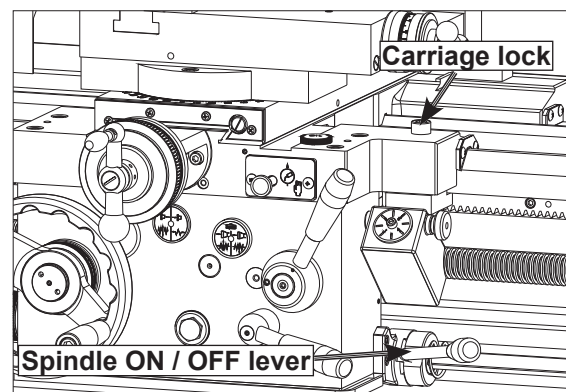

Figure 18. Carriage lock & Spindle ON / OFF lever.
7. Using a 10mm hex wrench, loosen the carriage lock (Figure 18) so the carriage is free to slide.
8. Move the spindle ON / OFF lever to the OFF (middle) position as shown in Figure 18.